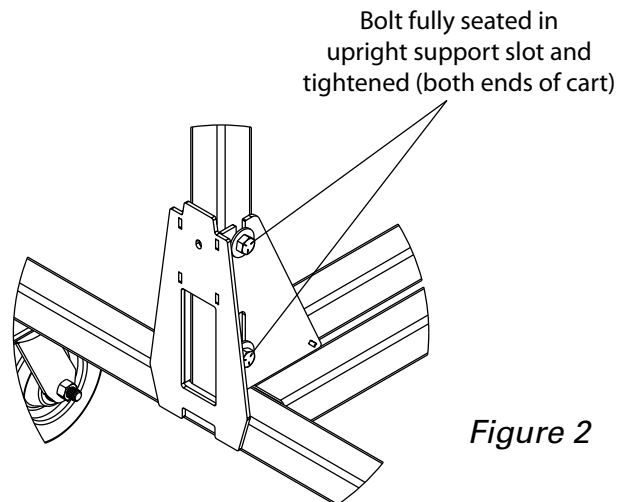

Figure 2
4. Ensure the top bolt is fully seated in the upright support slot and completely tighten all 4 bolts prior to use (See Assembly Figure 2).